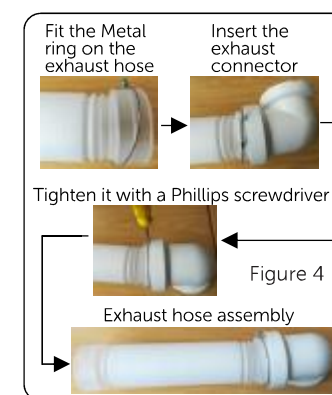

Figure 4
- 1.Connect hose (figure 4) to the air outlet of the machine by screwing it tight in a clockwise direction.